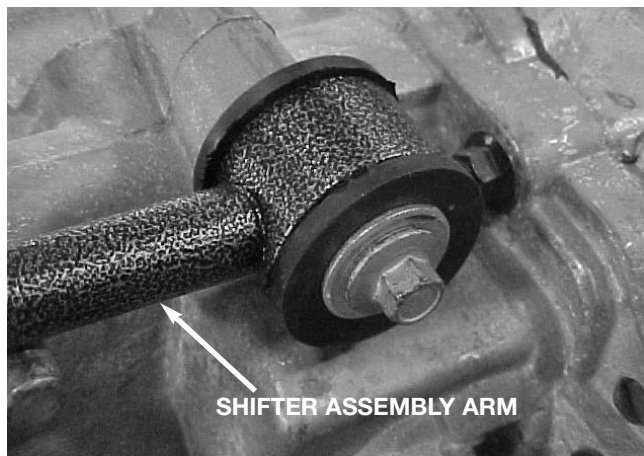

Figure 3
8. Using a 10mm wrench, remove the front bolt that secures the shifter assembly arm to the transmission and set aside (see fig.3).
1. Place Hurst shifter assembly on workbench. Insert the two (2) metal-flanged sleeves into the urethane bushings located in the Hurst shifter assembly arm. Insert the two (2) plastic linkage rod bushings into the shifter stick bottom. Lightly lubricate as needed.
3. From underneath the car, attach front shifter arm to the transmission. Lightly lubricate threads and replace hex bolt previously removed but do not tighten (see fig.3).